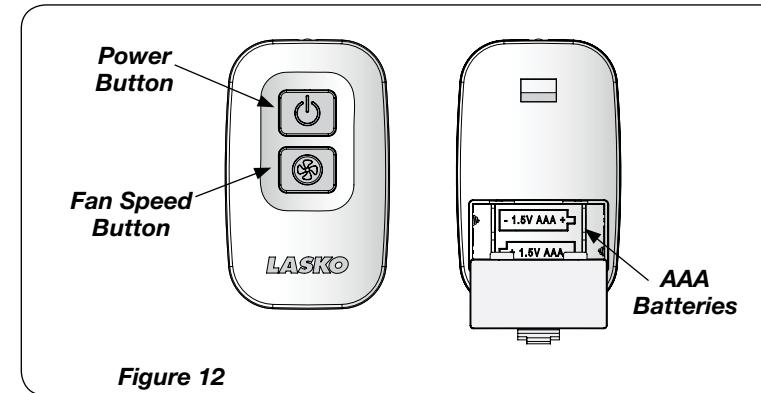

Figure 12
This Fan may be operated by the Manual Controls located on front of the unit (as shown in **Figure 9**) or by the Remote Control (shown in **Figure 12**).
1. Install batteries (not supplied) as shown in **Figure 12**. The battery is type "AAA".